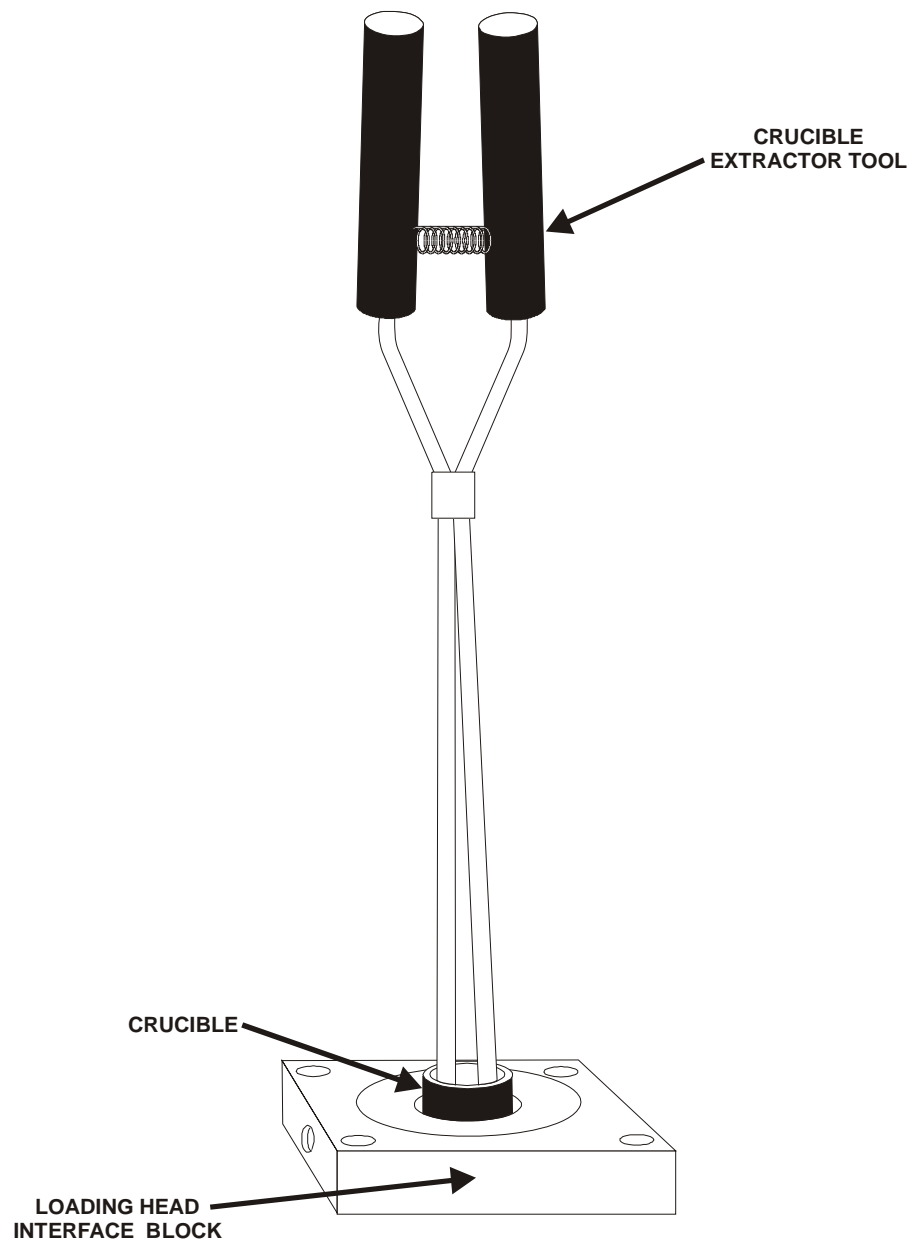

Figure 2-3
| Figure 2-3 Crucible Installation..... | 2-9 |
3. Insert the crucible extractor tool into a crucible and lower it into the combustion tube, Figure 2-3, page 2-9. Rest the crucible on the quartz wool packing. Release the crucible and remove the extractor tool.